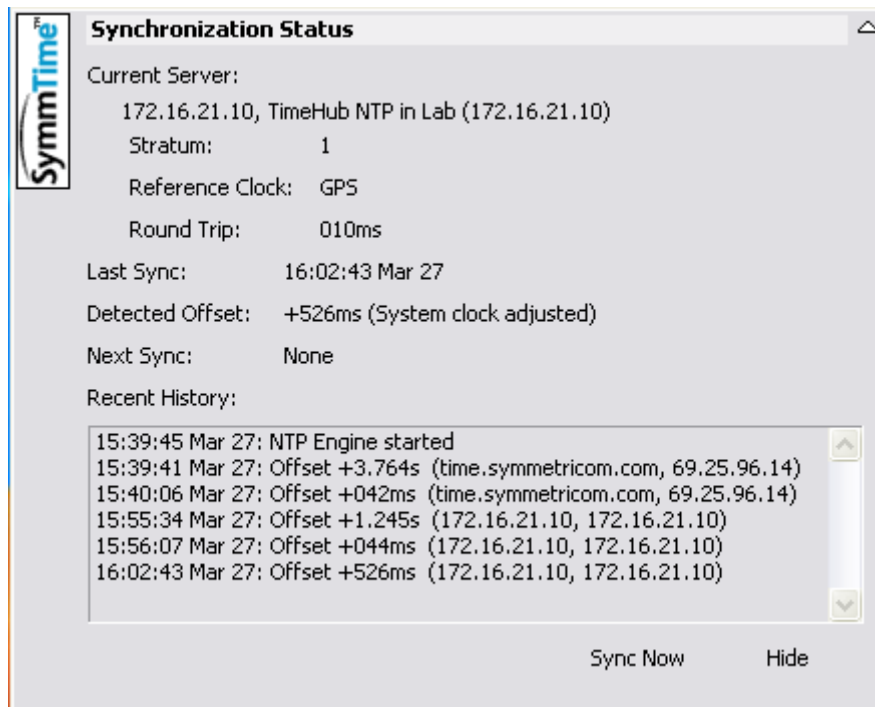

Figure 4-22. The Synchronization Status Window in SymmTime
9. Right-click anywhere in the SymmTime window and select Sync Status... The Synchronization Status window appears as shown in Figure 4-22.